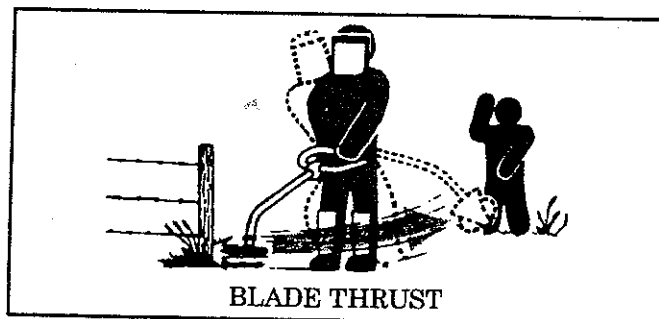

Figure 11
- WHAT CAUSES BLADE THRUST.** *Blade Thrust* can occur when the spinning blade contacts an object that it does not cut. This contact causes the blade to stop for an instant and then suddenly move or "thrust" away from the object that was hit. The "thrusting" reaction can be violent enough to cause the operator to be propelled in any direction and lose control of the tool. The uncontrolled tool can cause serious injury if the blade contacts the operator or others. Figure 11.